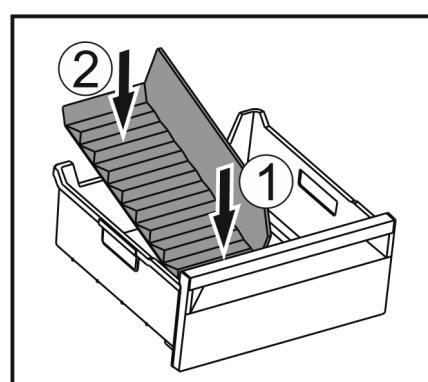

Fig. 98
- Insert the front part of the ice compartment divider. Fig. 98 (1)
- Lower the rear part of the ice compartment divider to the drawer bottom. Fig. 98 (2)